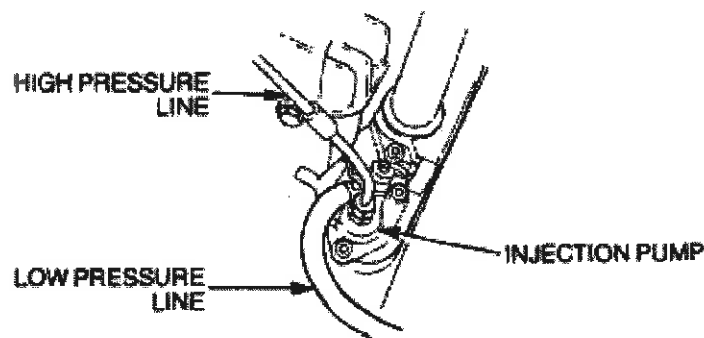

Figure 7 Fuel Injection Pump
- a. Remove the bolt securing the fuel line to the inlet side of the injection pump (Figure 7).